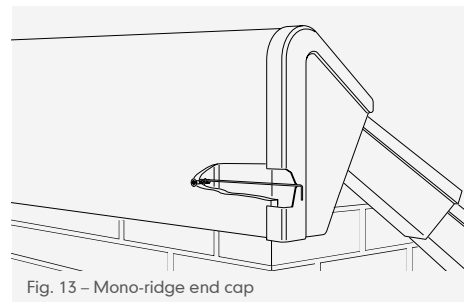

Fig. 13 – Mono-ridge end cap
- 16 Prior to fixing the gable end mono-ridge tile, push the security wire through the outside face of the mono-ridge tile (using the same fixing hole for screwing the mono-ridge tile to the wall) and bend through 90° (Fig. 13).